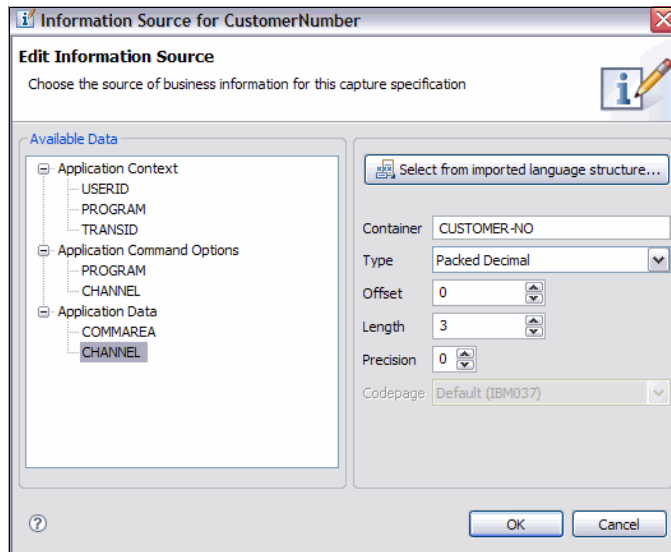

Figure 5-17 CustomerNumber information source
16. On the “Edit Information Source” panel in the Available Data section, click **CHANNEL** and enter the following values, as shown in Figure 5-17 on page 106.